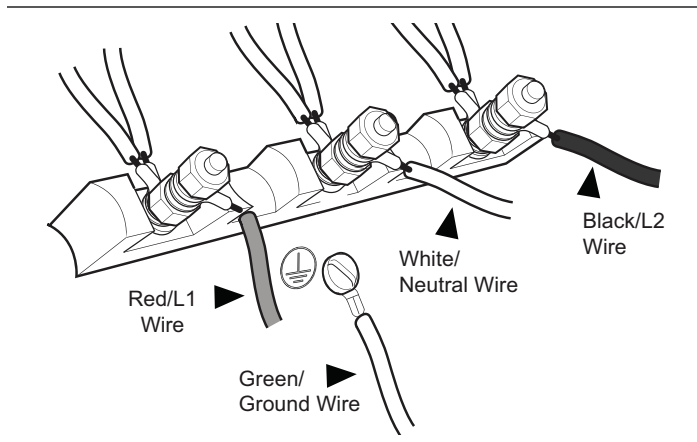

Figure 10: 4-Wire Connection
- Secure the neutral, grounded wire of the supply circuit, to the center stud of the terminal block with nut (see *Figure 10*).